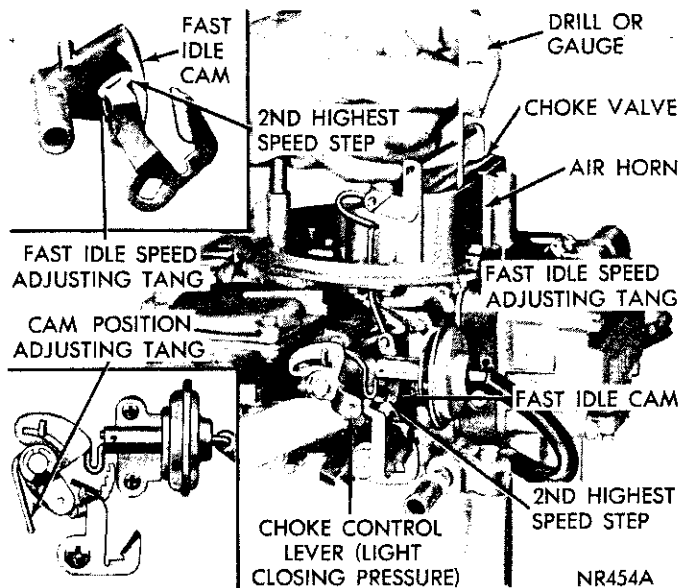
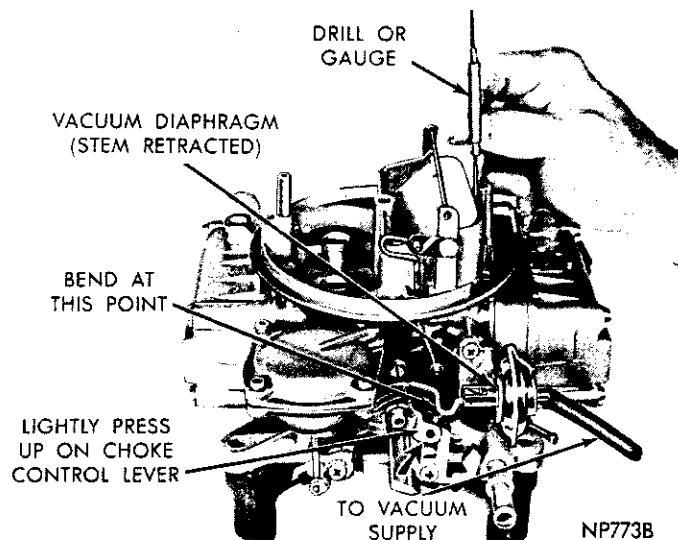

Fig. 21—Fast Idle Cam Position Adjustment
Fig. 22—Vacuum Kick Adjustment
(4) To adjust, bend the indicated tang (Fig. 21) until the correct choke valve opening has been obtained.
(1) If the adjustment is to be made with the engine running, position the fast idle tang (Fig. 21) (Cam position adjustment) to allow choke closure to kick position. If auxiliary vacuum source is to be used, open throttle valves, (engine not running) and move choke to closed position. Release throttle first, then release choke.
(2) When using an auxiliary vacuum source, disconnect the vacuum hose from the carburetor and connect it to the hose from the vacuum supply with a small length of tube to act as a fitting. Removal of the hose from the diaphragm may require forces which damage the system. Apply a vacuum of 10 or more inches of hose.
(3) Insert the specified drill (see specifications) between the choke valve and the wall of the air horn. (Fig. 22). Apply sufficient closing pressure on the lever to which the choke rod attaches to provide a